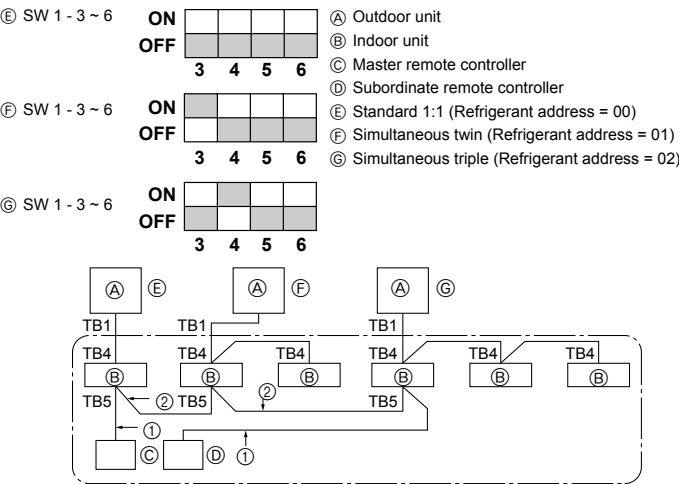

Fig. 9-1
- ① Supply power (circuit breaker).
- ② After the gas stop valve is closed, set the SWP switch on the control board of the outdoor unit to ON. The compressor (outdoor unit) and ventilators (indoor and outdoor units) start operating and refrigerant collecting operation begins. LED1 and LED2 on the control board of the outdoor unit are lit.
- ③ Because the unit automatically stops in about two to three minutes after the refrigerant collecting operation (LED1 and LED2 are lit), be sure to quickly close the gas stop valve. When LED1 and LED2 are lit and the outdoor unit is stopped, open the liquid stop valve completely, and then repeat step ② after three minutes have passed.
- ④ Turn off the power supply (circuit breaker).
9. System control (Fig. 9-1)